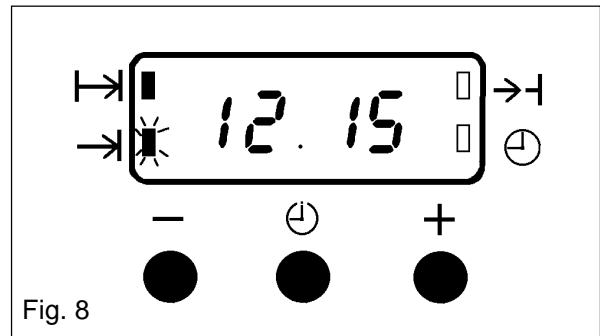

Fig. 8
- v) To set the 'End Time'. Press the Selector Control button until the 'End Time' (→) flashes. Press the increase control ( + ) until the required stop time is displayed, e.g. 12.15 p.m. as Fig. 8. If necessary depress the decrease control ( - ) until the correct time interval is achieved.